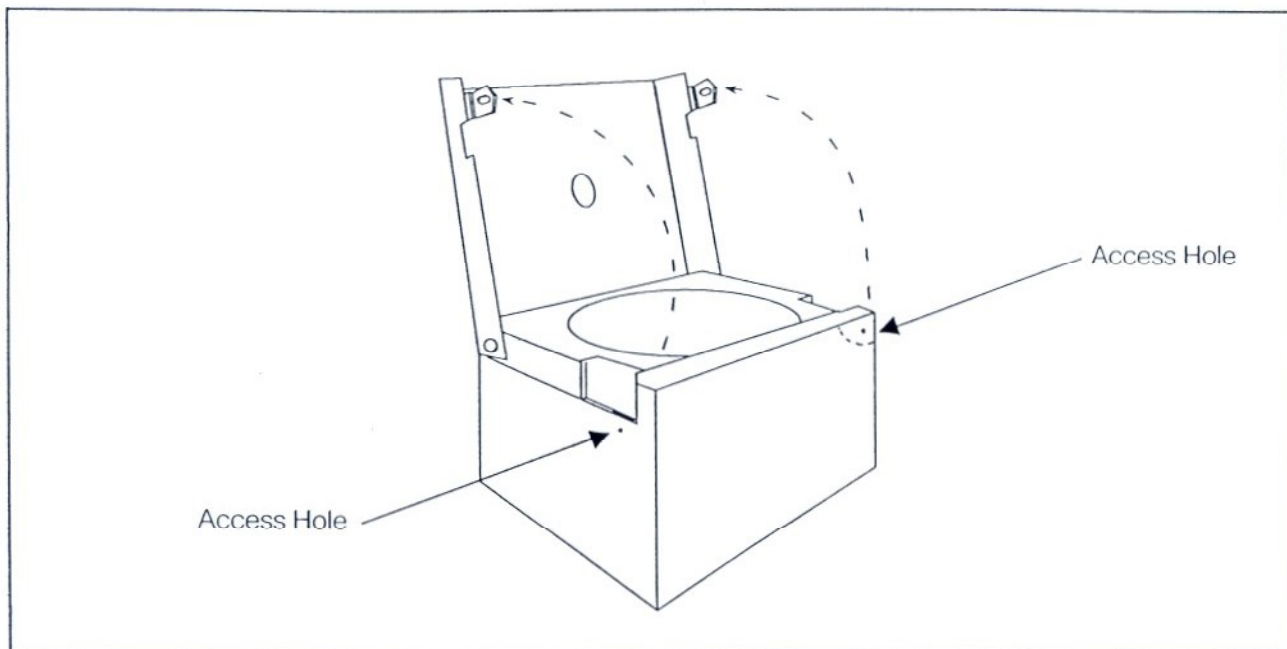

Figure 7. Emergency Lid Opening
3. Insert two rods into the access holes on both side panels (See Figure 7) and unlock the lid, one side at a time.